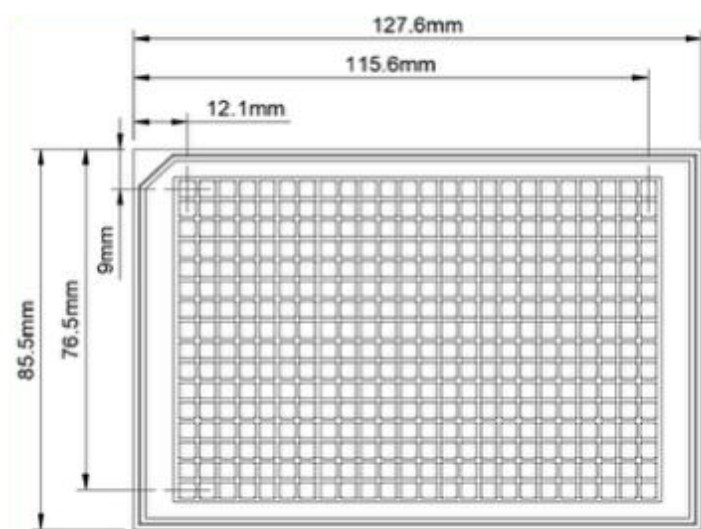

Figure 1. Corning Spheroid Microplate Measurements (Catalog Number 4516). Overhead view showing relevant width and length dimensions.
- A2. Ensure the automated system has the correct plate dimensions for the Corning Spheroid Microplate (Catalog Number 4516, Figure 1 below).